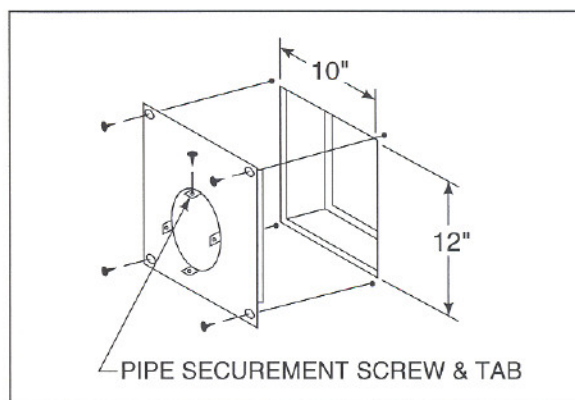

Figure 7
3. Interior Wall Shield. An interior wall shield must be installed each time the venting system penetrates a wall. This shield has been designed to maintain the minimum clearances needed for the venting system and prevent cold air infiltration. After the venting hole has been cut and framed, secure an interior wall shield into position with four 1" fasteners, one in each corner. Bend out the tabs located on the inner portion of the wall shield and use a 1/2" screw to secure each tab to the penetrating pipe. See Figure 7. (1/2" screws are used to avoid penetrating the inner pipe.)